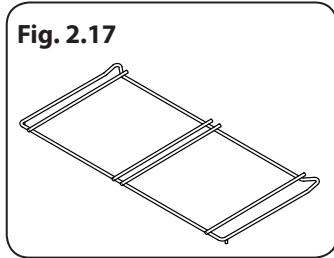

Fig. 2.17
- 1 support de lèchefrite (Fig. 2.17)